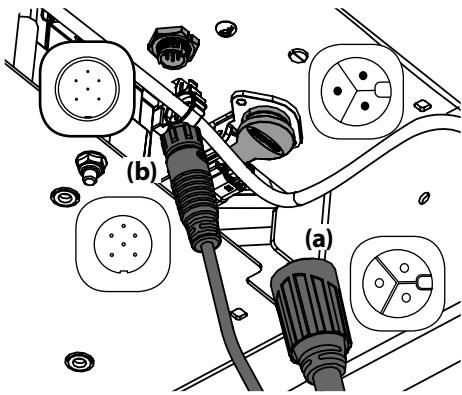

Figure 4-7
4. Disconnect the deck motor(s) from the adapters on the right, underside of the rider. Rotate the larger connector (a) $\frac{1}{4}$ -turn counterclockwise and pull down. Repeat the procedure with the smaller connector (b). See Figure 4-7.
6. Reconnect the deck motors to the adapters on the right, underside of the rider. Always connect the larger connector first and then the smaller connector. See Figure 4-7.